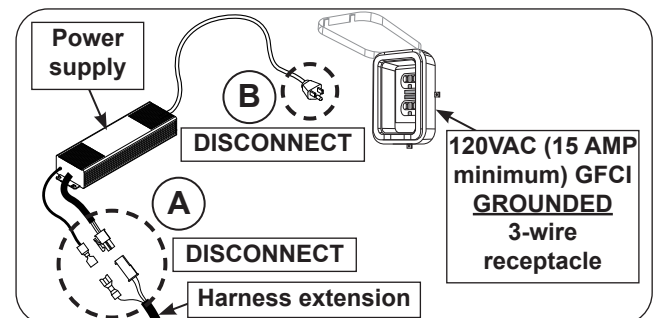

Fig. 39-4 Perform system reset
2. Disconnect the harness extension from the power supply (see Fig. 39-4, A).
3. Disconnect the power supply from the power source. (see Fig. 39-4, B).